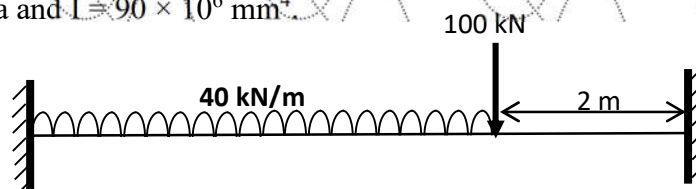

Figure.2
3. Find the deflection under the point of action of the concentrated load and maximum deflection of a beam of span 6 m supported and loaded as shown in Figure.2. Adopt $E = 200$ GPa and $I = 90 \times 10^6$ mm⁴. [10]